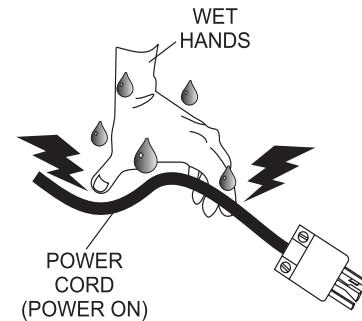

Figure 3. Extension Cord (Wet Hands)
**NEVER** touch the power cord (Figure 3) with **wet hands** or while **standing in water** when it is connected to a power source. The possibility exists of electrical shock (electrocution) even death. **NEVER** spray water directly on the electric motor.